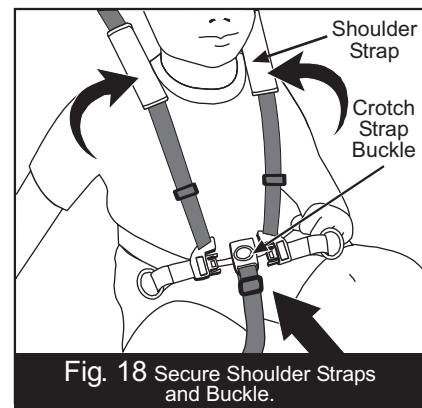

Fig. 18 Secure Shoulder Straps and Buckle.
- Place child in seat. Slip one shoulder strap over each shoulder. Position crotch strap between legs (Fig. 18).